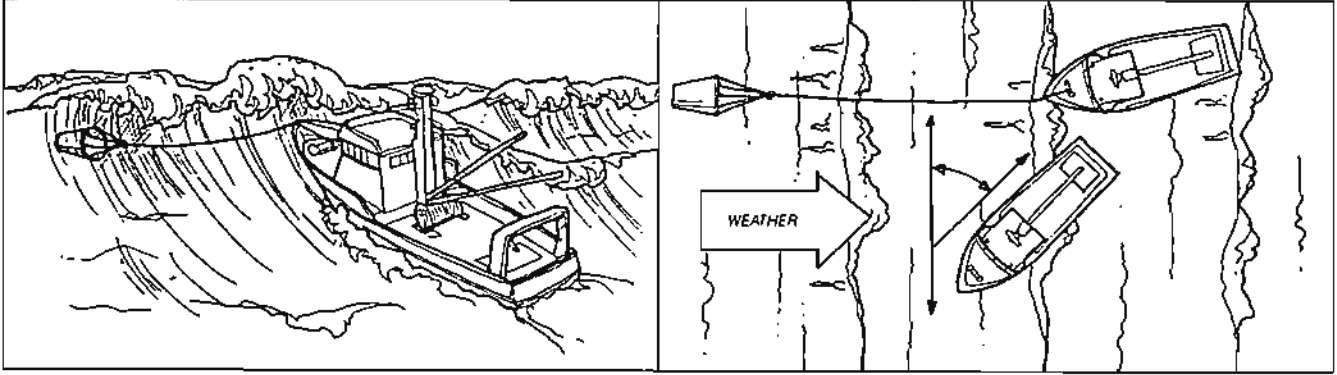

Figure 5-14. (2) A sea anchor may help maintain a bow-on position.
* If your vessel rolls dangerously as it drifts, you may try running quickly enough just to keep steerageway (Figure 5-14 (3)).